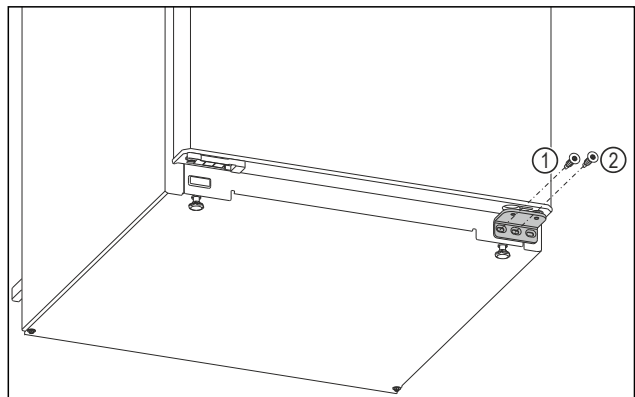

Fig. 4
- ▶ Unscrew the inner screw on the lower swap bearing block with a Torx 20 screwdriver. Fig. 4 (1)
- ▶ Unscrew the middle screw on the lower swap bearing block with a Torx 20 screwdriver. Fig. 4 (2)